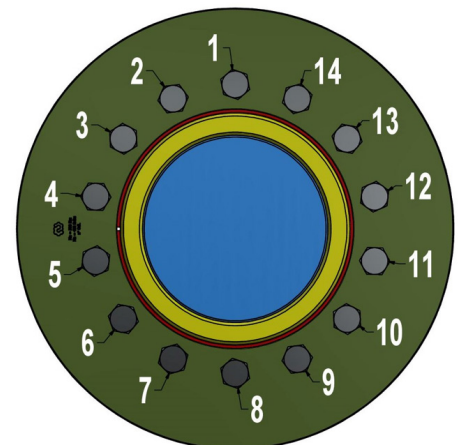

Fig. 4
4. Use a torque wrench set approx. 5% higher than specified tightening torque (Ma), or reduced within admissible value. **Progressively tighten the screws in either a clockwise or counterclockwise sequence, using approx. ¼ turns for several passes until ¼ turns can no longer be achieved (fig. 4).**